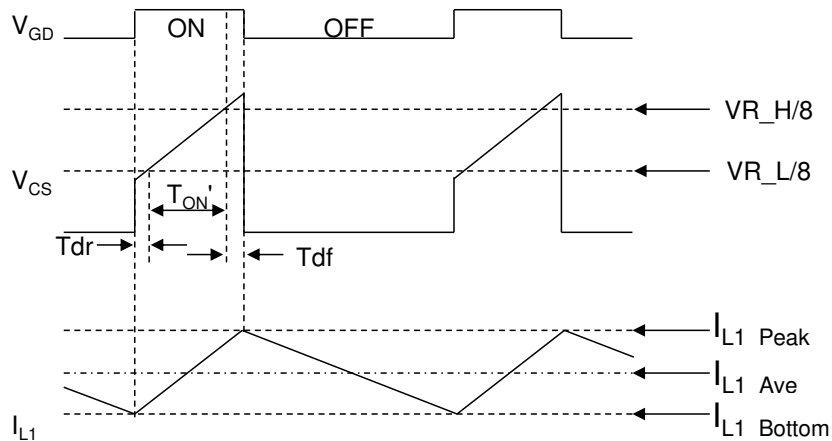

Figure 23. Time Waveform with Group Delay
As mentioned in “2) Switching Frequency”, the inductance value of the coil is determined by input/output voltage conditions and switching frequency [Fsw]. However, the setting calculations for the RVLY pin and the CS pin do not include group delay of the circuit. For example,  $\Delta I_{LI}$  does not include group delay but  $T_{ON}$  includes group delay in equation (10). Therefore, a  $T_{ON}$  value without group delay must be calculated to determine the coil inductance by equation (10). Figure 23 shows a detailed time waveform of the GD pin voltage, the CS pin voltage and the coil current, which is shown in Figure 2, with group delay.
In Figure 23,  $T_{dr}$  indicates group delay from a rising of the GD pin voltage to a falling of the A2 comparator.  $T_{df}$  indicates group delay from a peak current detection of the CS pin to a falling of the GD pin voltage. Although these values vary depending on the characteristics of  $M_1$  and IC performance, group delays are approximately determined by following expressions.